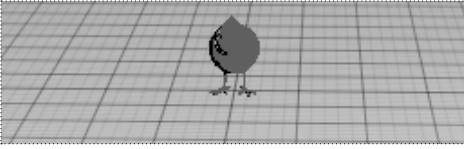

Fig. 10.11
8. The default size of the bird is very small. We will resize the object to increase its size. [Fig 10.11]